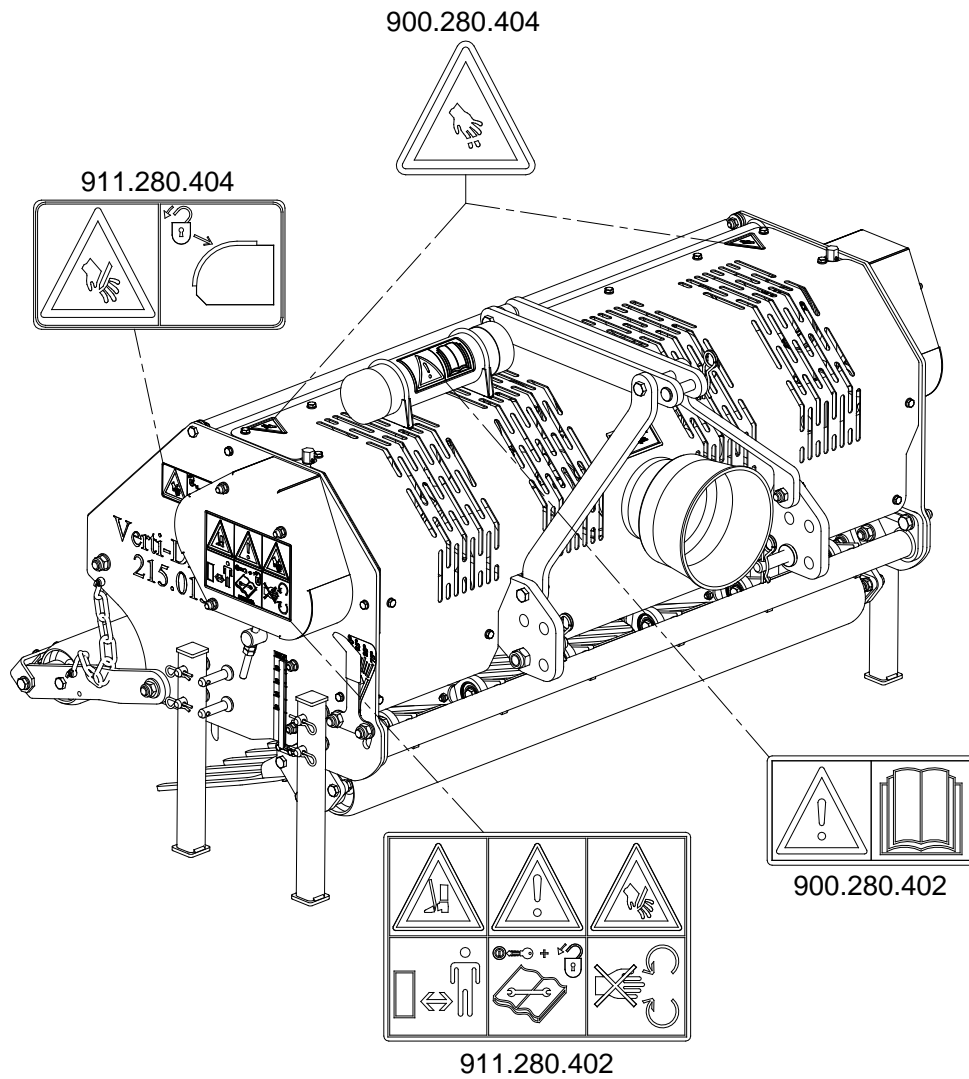

Fig. 7
(7) Location of safety stickers. (Fig. 7)